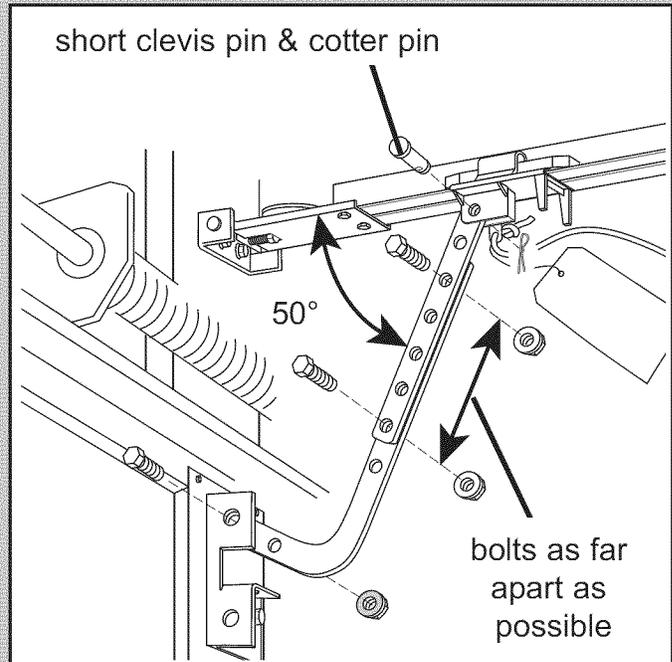

FIG. 2-9 Attaching door arms.
- Fasten short branch of curved door arm to door bracket using bolt and locking nut (**Fig. 2-9**).
- Fasten straight arm to carriage using short clevis pin and cotter pin (**Fig. 2-9**).
- With the arms arranged in this position, fasten arms together using bolts and nuts spaced as far apart as possible (**Fig. 2-9**).